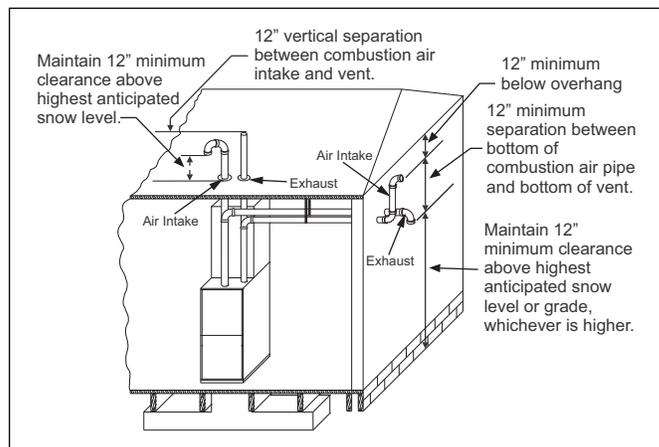

Figure 27 Termination Configuration - 2 Pipe
7. Direct vent systems must be installed so the vent and the combustion air pipes terminate in the same atmospheric zone. Refer to Figures 27 or 28.